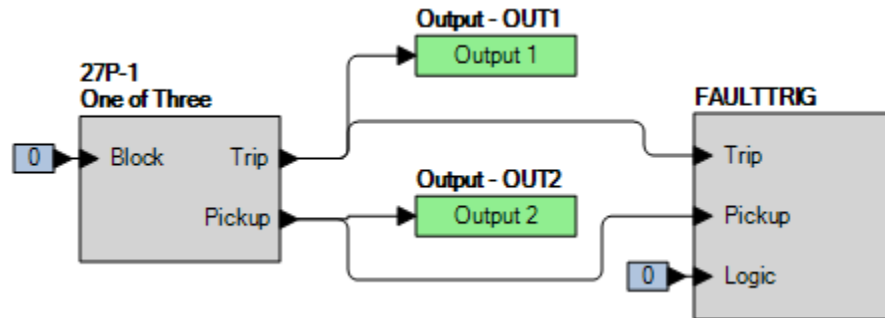

Figure 60-1. BESTlogicPi.us Settings
Step 2: Use BESTCOMSPi.us to configure the BESTlogicPi.us programmable logic shown in Figure 60-1.
Step 4: Prepare to monitor the 27P-1 function operation. Operation can be verified by monitoring OUT2 (see Figure 60-1).